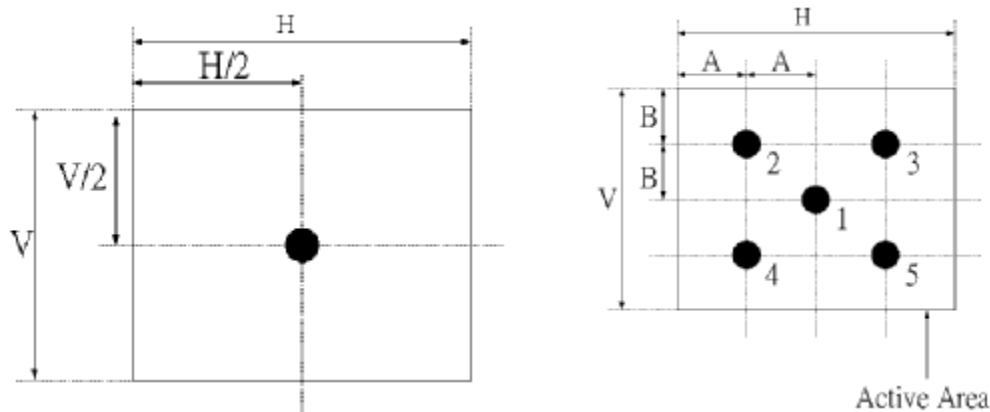

Fig.4-2 Optical measurement point
2. Surface luminance is luminance value at point 1 across the LCD surface 50cm from the surface with all pixels displaying white. From more information see FIG 4-2. When $I_{BL} = 6.0\text{mA}$, $L_{WH} = 450\text{cd/m}^2$ (typ.) $L_{WH} = L_{on1}$, Where L_{on1} is the luminance with all pixels displaying white at center 1 location.